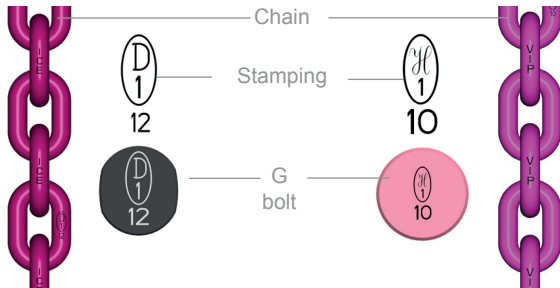

Fig. 1:
- Only utilize oval ICE-G bolts (Fig. 1) with ICE components